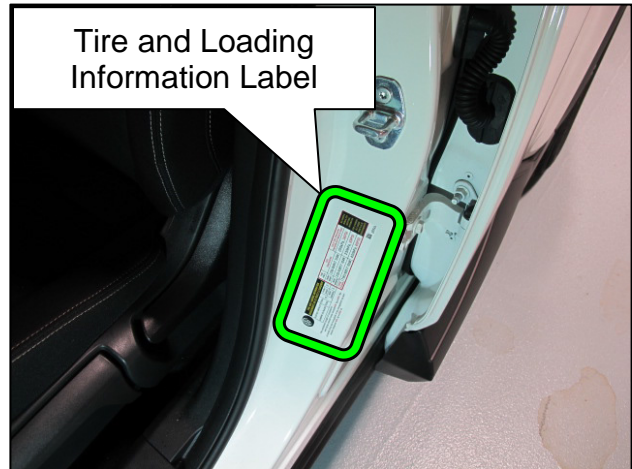

Figure 1
3. Locate the Tire and Loading Information Label located in the driver's door opening (Figure 1).